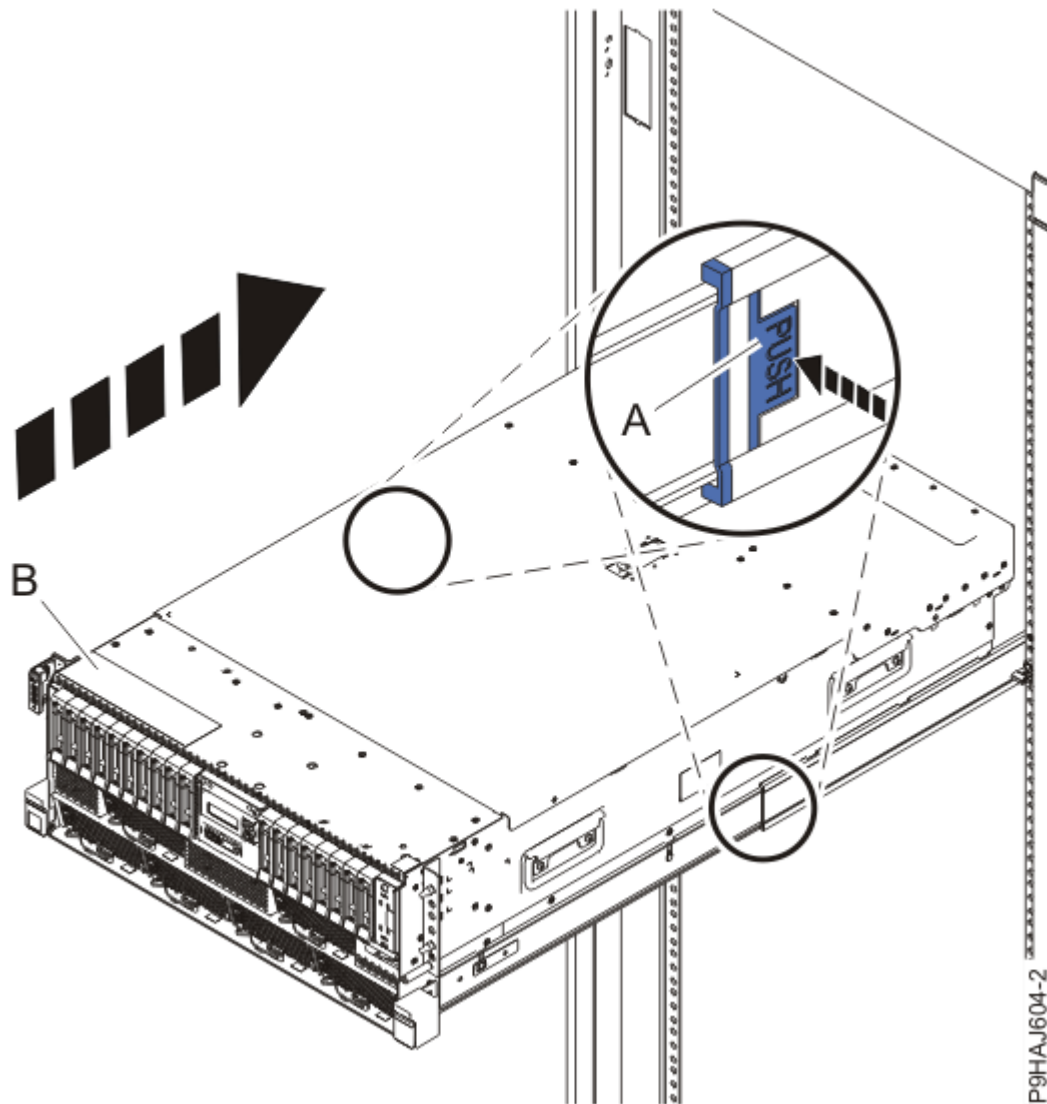

Figure 55. Placing the system into the operating position
3. For a rack-mounted system, unlock the blue rail safety latches (**A**) as shown in Figure 55 on page 71 by pushing them inward.